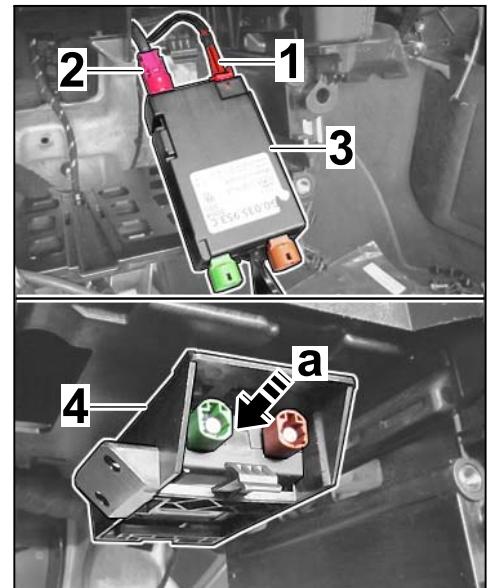

Figure 26
- 4.5.2 Push USB/iPod control unit into the USB/iPod control unit holder ⇒ *Figure 26-4* (⇒ *Figure 26-a*) until the USB/iPod control unit engages securely.